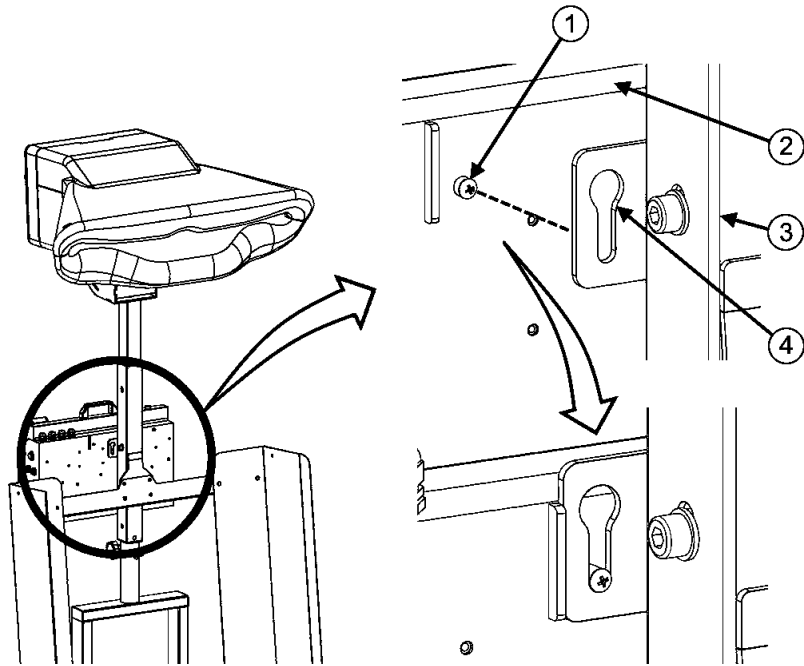

Figure 15 Dispenser Control Box
4. Connect the **Dispenser Control Box** (Figure 15, 3) to the **Dispenser** head (1) connector and tighten the round nut connector (2) from the cable plug by turning the nut clockwise.